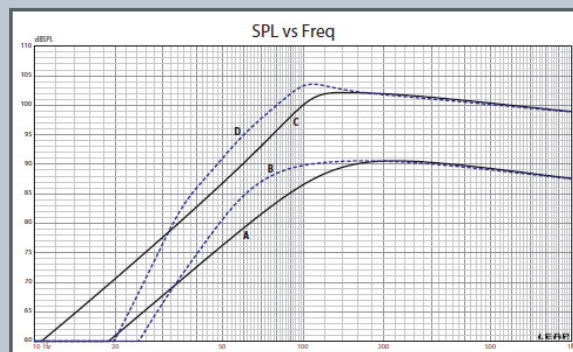
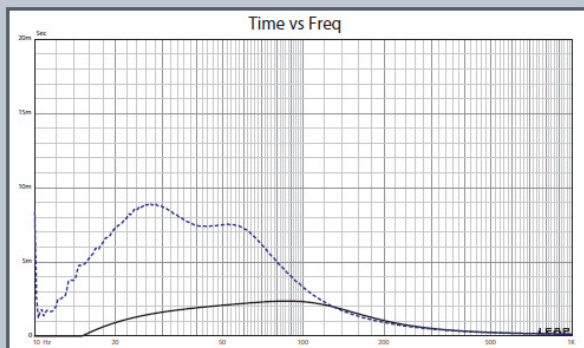

FIGURE 17: Scan-Speak 12W/4524G00 computer box simulations (A = sealed at 2.83V; B = vented at 2.83V; C = sealed at 12V; D = vented at 12V).
FIGURE 18: Group delay curves for the 2.83V curves in Fig. 17.
**Figure 17** displays the results for the 12W/4524G00 in the sealed and vented boxes at 2.83V and at a voltage level high enough to increase cone excursion to Xmax + 15% (4.5mm). This resulted in a F3 = 109Hz with a box/driver Qtc of 0.69 for the 120 in3 closed box design and a -3dB = 72Hz for the 251 in3 vented simulation. Increasing the voltage input to the simulations until the maximum linear cone excursion was reached generated 102dB at 12V for the sealed enclosure simulation and 103.5dB with same 12V input level for the larger ported enclosure (see **Figs. 18 and 19** for the 2.83V group delay curves and the 12V excursion curves). Very reasonable performance for a 4" woofer.